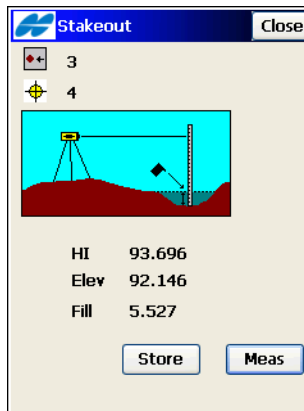

Figure 9-57. Level Stakeout
3. On the level *Stakeout* screen (Figure 9-57) tap the **Meas** button to measure the elevation and compute a cut/fill value. Tap **Store** to set a code for the point, the name, a photo note and the layer name and plotting parameters. You can also view the elevation information and save the staked point.